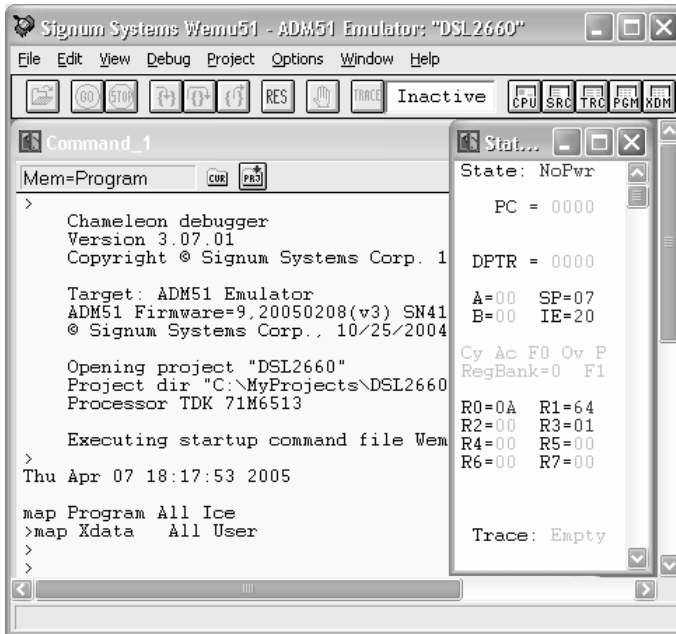
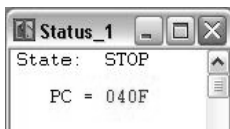

FIGURE 10 Chameleon WEMU51 detects the No Target Power condition.
FIGURE 11 Target Power On and CPU Stopped condition acknowledgement.
- If you have not turned the target power on, the Status window displays the NoPwr state in, and the Command window the “No Target Power” message appears in the Command window (Figure 10). If this is the case, turn power the emulator now. Chameleon acknowledges the power-on state in the Status window by displaying STOP as the processor state (Figure 11). It is recommended to keep the Status window opened permanently for monitoring the status of the processor and important processor registers.